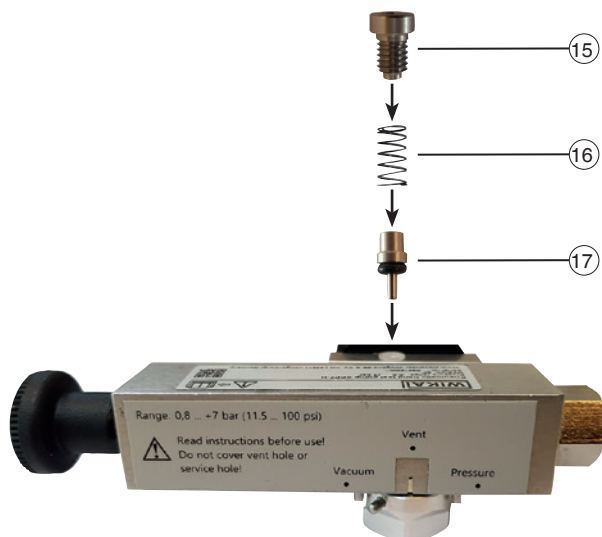

Fig. 1 - Inserting the non-return valve
- ▶ Pay attention to the correct order of the components (see Fig. 1 "Inserting the non-return valve")!
5. Re-close the opening (18) with the screw (15).